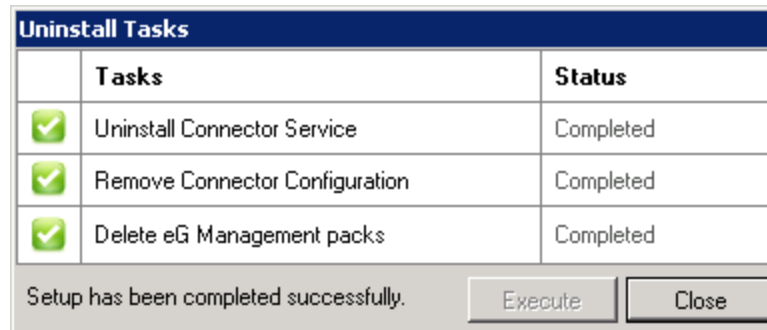

Figure 4.46: Completion of all uninstallation tasks
- Click on the **Execute** button in Figure 4.45 to begin performing the **Tasks** listed. The uninstallation process will perform each task automatically and update the **Status** column of Figure 4.45 accordingly. When all tasks are completed, the **Status** column will indicate the same (see Figure 4.46).
5. Click the **Close** button in Figure 4.46 to close the **Uninstall Tasks** window.